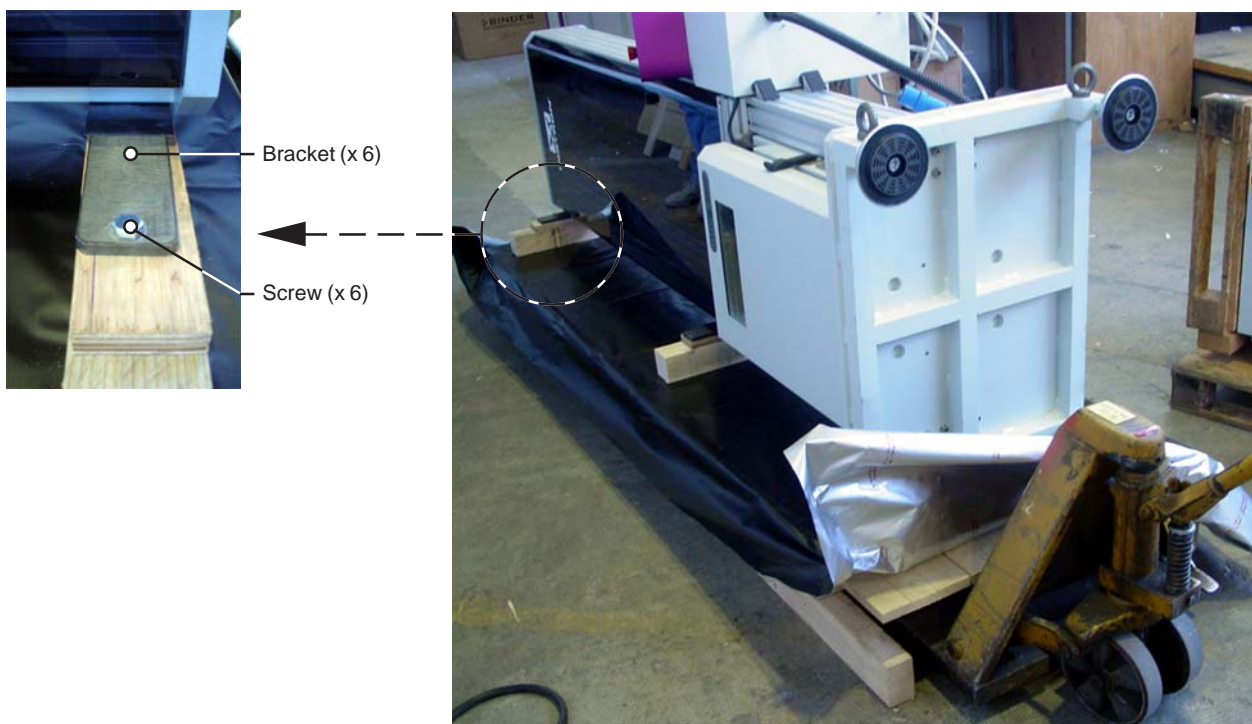

Fig. 1
- ▶ c) Remove the screws (x 6) and brackets (x 6) fastening the instrument to the pallet (Fig. 1 and detail).